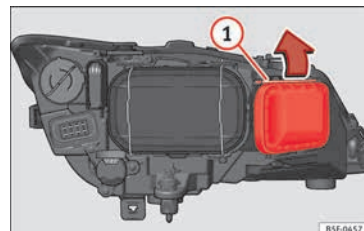

Fig. 108 Main beam headlight bulb.
- Move the loop » **Fig. 108** **①** in the direction of the arrow and remove the cover.